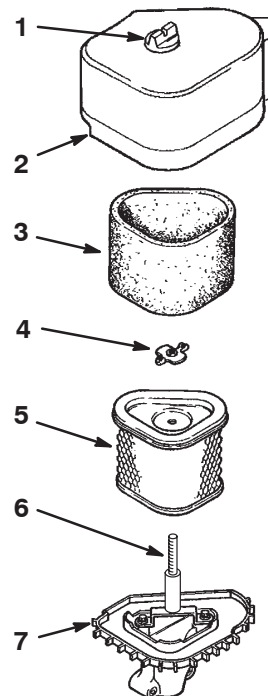

Figure 29
3. Unscrew the knob and remove the air cleaner cover (Fig. 29).
4. Remove the wing nut and slide the foam and paper air cleaner assembly off the stud (Fig. 29).
5. Carefully slide the foam element off the paper element (Fig. 29).
1. Carefully slide the foam element onto the paper air cleaner element (Fig. 29).
2. Place the air cleaner assembly onto the air cleaner base (Fig. 29).
3. Install the air cleaner cover and secure it with the cover nut (Fig. 29).